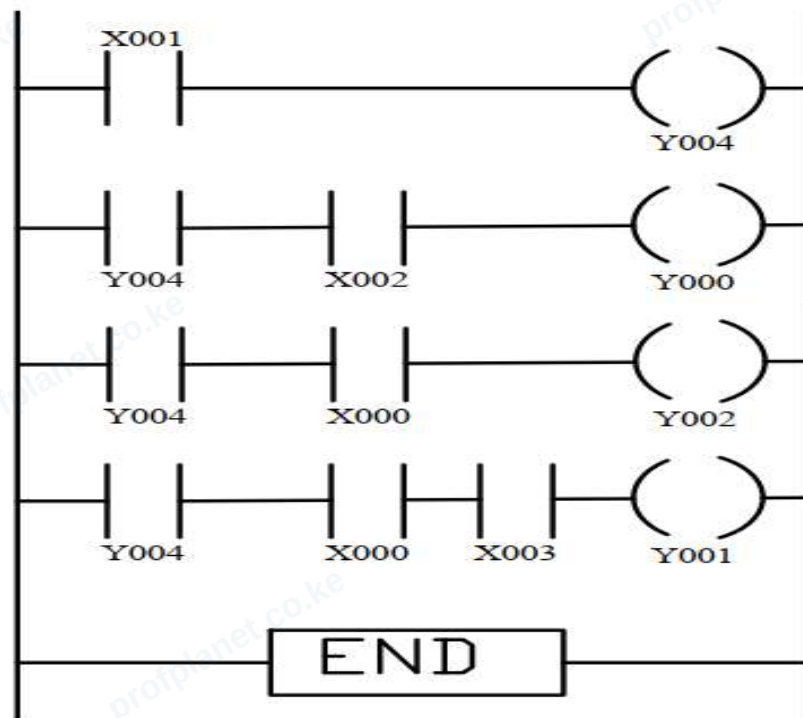

Figure 2
3. Input the PLC ladder program shown in figure 2 into the programming software.